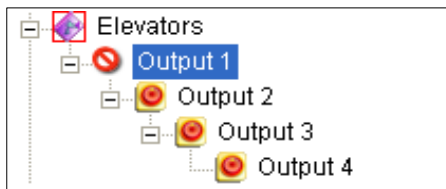
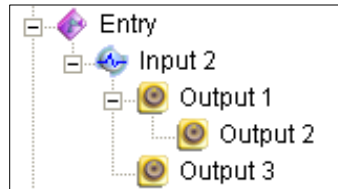

Figure 6-27
Figure 6-28
- In the Advanced I/O List, considering cascade triggers, you can only manually force the output at the top level, e.g. Figure 6-27. Other outputs at sub levels cannot be forced manually, e.g. Figure 6-28.